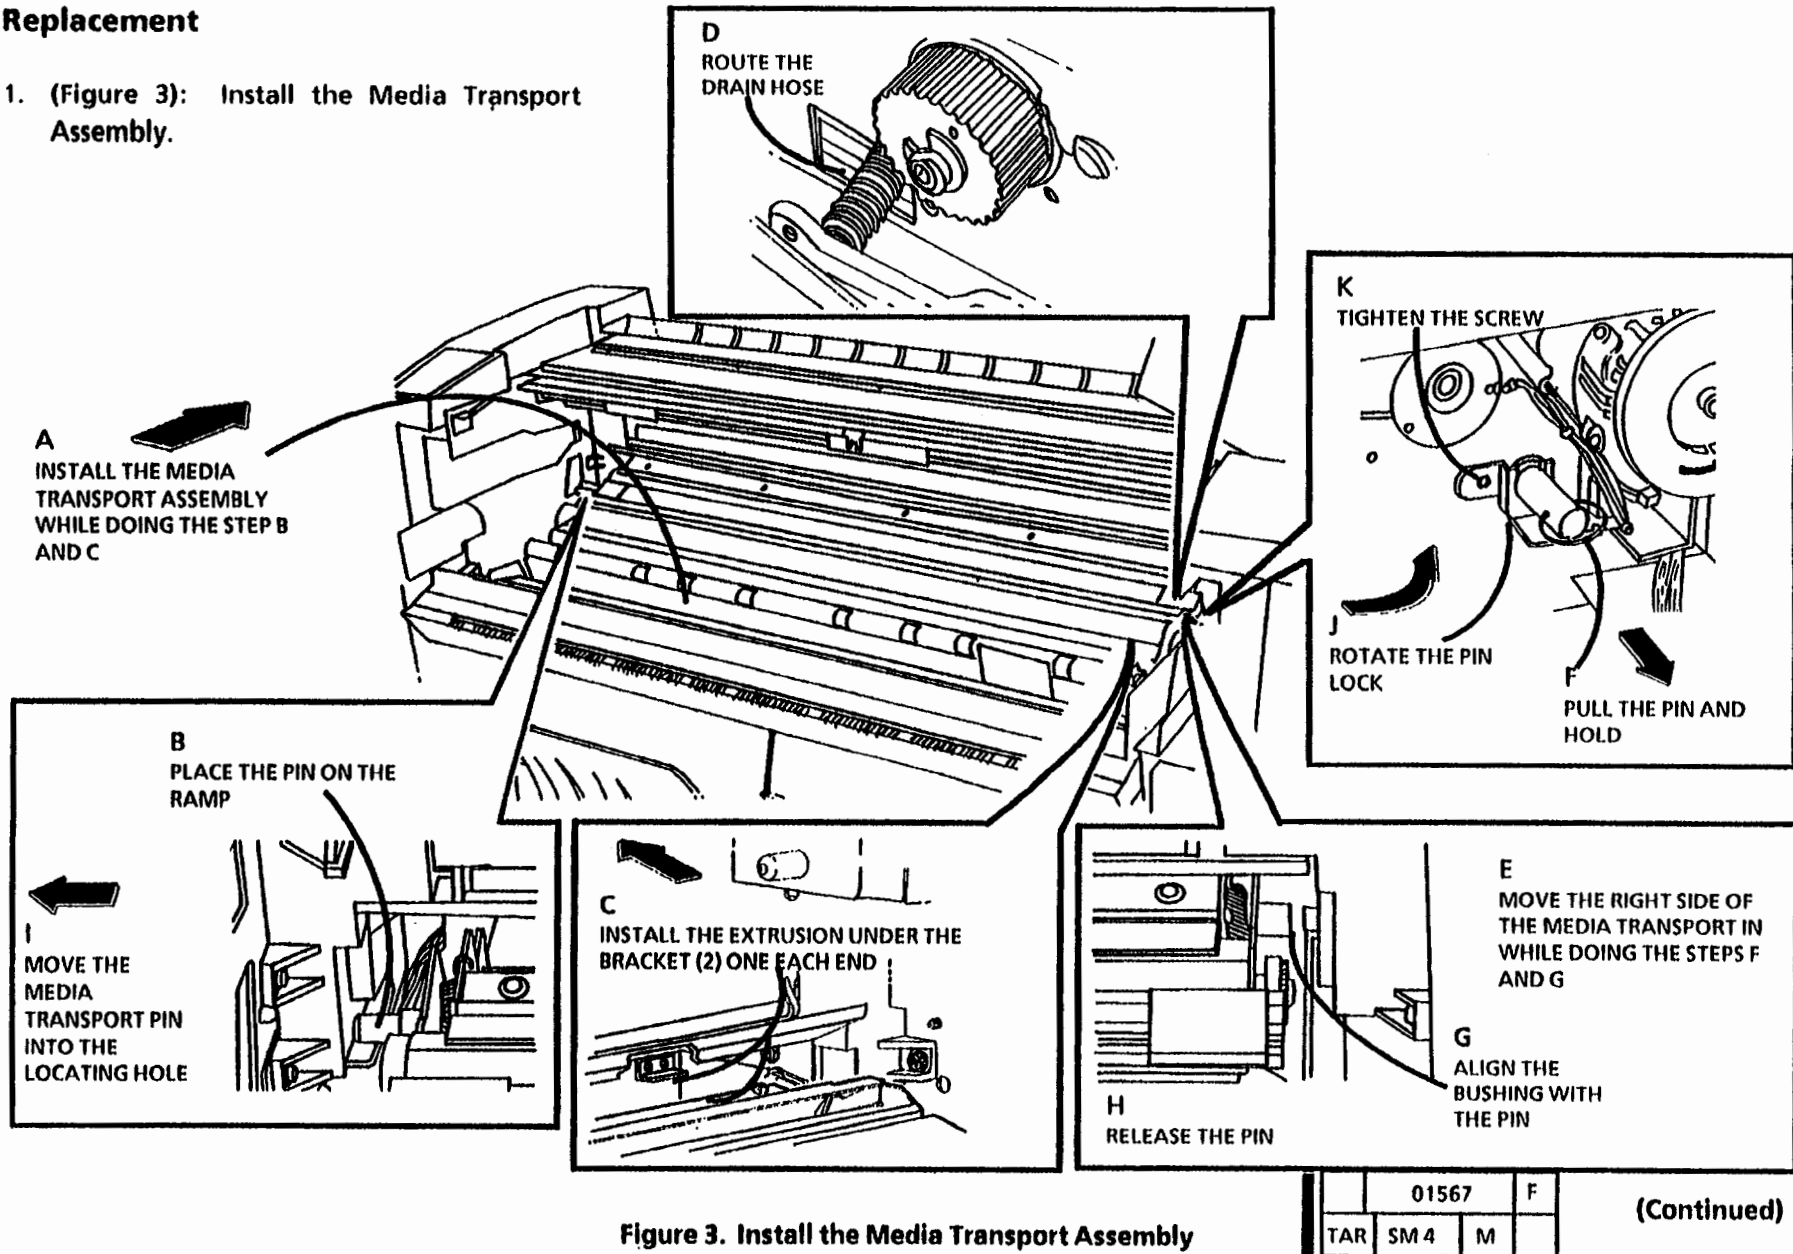

Figure 3. Install the Media Transport Assembly
1. (Figure 3): Install the Media Transport Assembly.